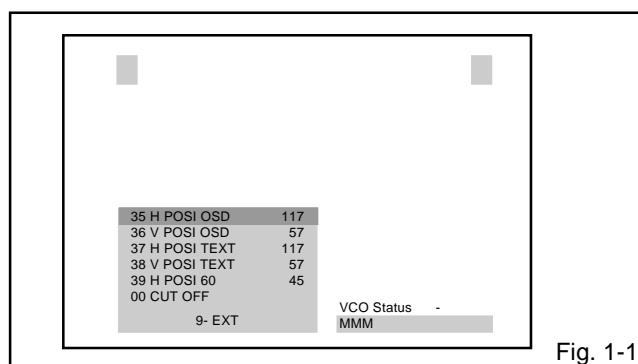

Fig. 1-1
1. In the condition of NO indication on the screen. Press the VOL. DOWN button on the set and the Channel button (9) on the remote control for more than 2 seconds to appear the adjustment mode on the screen as shown in Fig. 1-1.
3. Activate the adjustment mode display of Fig. 1-1 and press the channel button (13) on the remote control to select "VCO COARSE".
4. Activate the adjustment mode display of Fig. 1-1 and press the channel button (01) on the remote control to select "RF AGC".
4. Activate the adjustment mode display of Fig. 1-1 and press the channel button (00) on the remote control to select "CUT OFF".
4. Activate the adjustment mode display of Fig. 1-1 and press the channel button (03) on the remote control to select "R DRIVE".
3. Activate the adjustment mode display of **Fig. 1-1** and press the channel button (**08**) on the remote control to select "H POSI (50)".
7. Activate the adjustment mode display of **Fig. 1-1** and press the channel button (**39**) on the remote control to select "H POSI (60)".
3. Activate the adjustment mode display of **Fig. 1-1** and press the channel button (**11**) on the remote control to select "V SIZE (50)".
8. Activate the adjustment mode display of **Fig. 1-1** and press the channel button (**12**) on the remote control to select "V SIZE (60)".
4. Activate the adjustment mode display of **Fig. 1-1** and press the channel button (**17**) on the remote control to select "BRIGHT CENT".
1. Activate the adjustment mode display of **Fig. 1-1** and press the channel button (**22**) on the remote control to select "CONTRAST CENT".